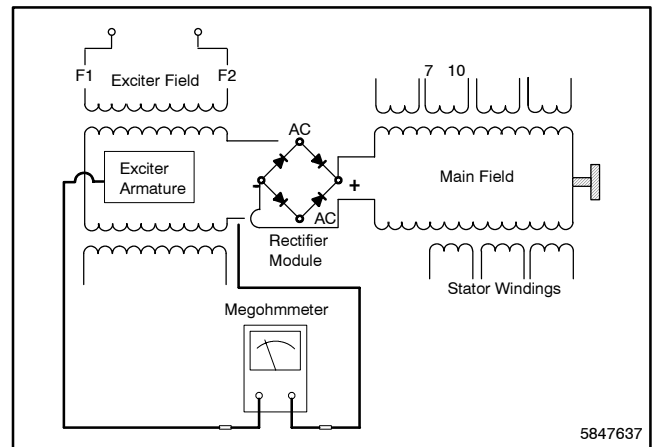

Figure 5-35 Megohmmeter Connections on Exciter Armature (10/12RZ Shown)
3. Check exciter armature winding for a grounded condition. Use a megohmmeter to apply 500 volts DC to either armature lead and armature frame. Follow the instructions of the megohmmeter manufacturer when performing this test. See Figure 5-35. A reading of approximately 500K ohms (1/2 megohm) and higher indicates the exciter armature is good. A reading of less than approximately 500 kOhms indicates deterioration of winding insulation and possible current flow to ground. Repair or replace the exciter armature.